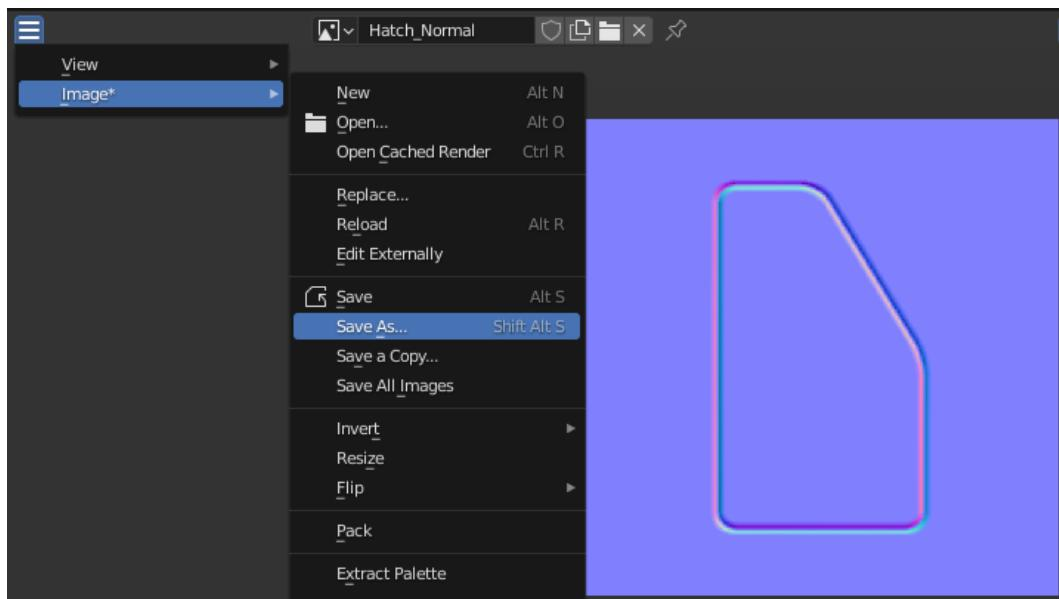

Figure 6.56 – Saving the normal decal
6. After correcting the normals, repeat the steps from the *Baking a normal map* section to bake a normal map, as shown in *Figure 6.56*. Save this image to your computer: